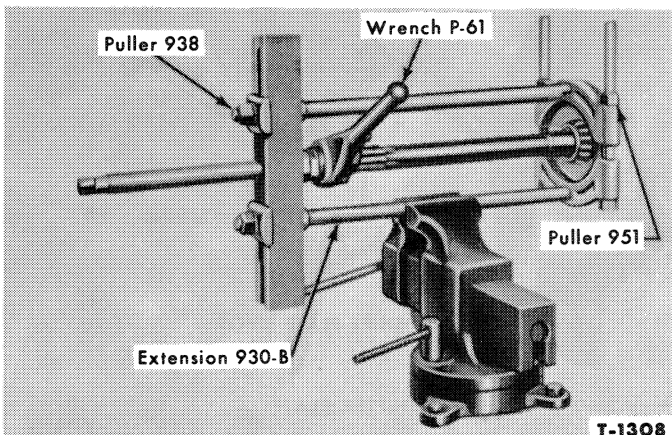

Figure 7—Removing Main Drive Gear Bearing
2. Remove the main drive gear bearing with the tools illustrated in Figure 7. Remove the bearing cup from the retainer with Bearing Cup Pulling Attachment 943 and Slide Hammer 943-S. Remove the oil seal using Puller 956 and Slide Hammer.